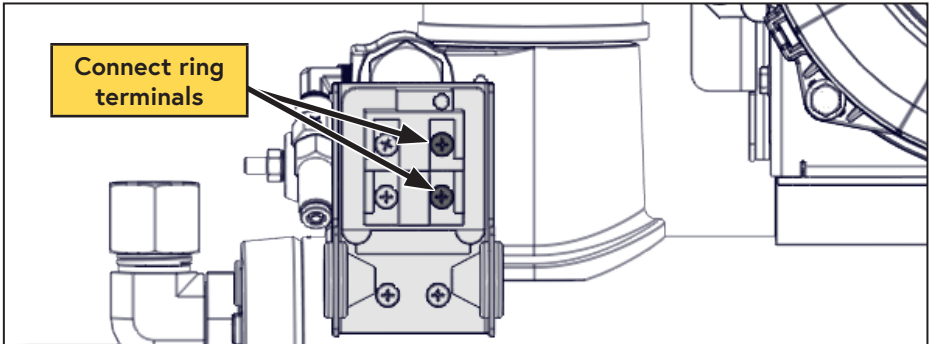

Figure 40 — Connect pressure switch
- Remove the cover from the WHASP Tank pressure switch and connect the 2 ring terminals from the control module to the pressure switch on the WHASP Tank (not polarity dependent) (Figure 40).